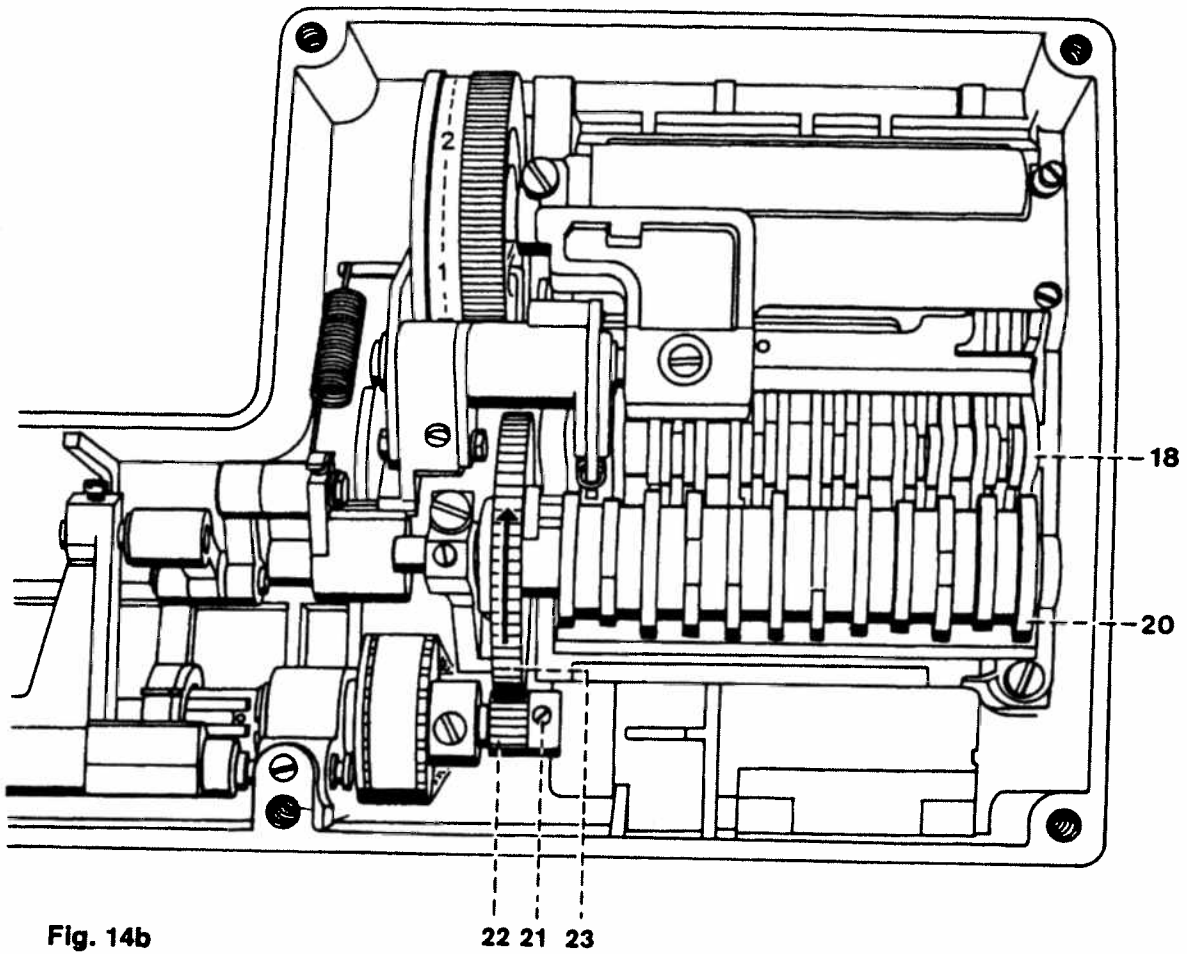

Fig. 14b
- Loosen the two screws 21 (fig. 14b).